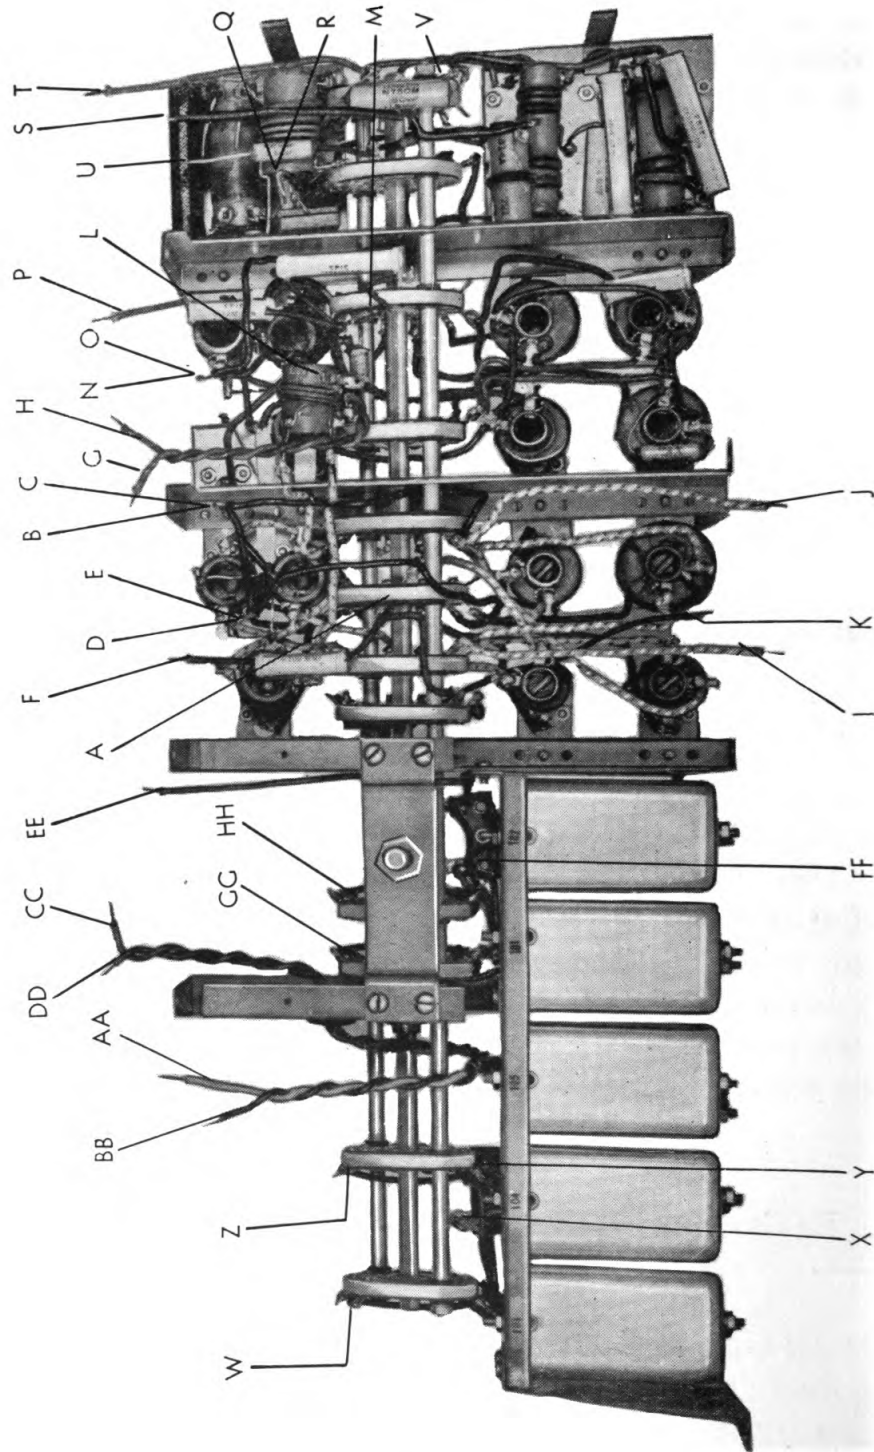
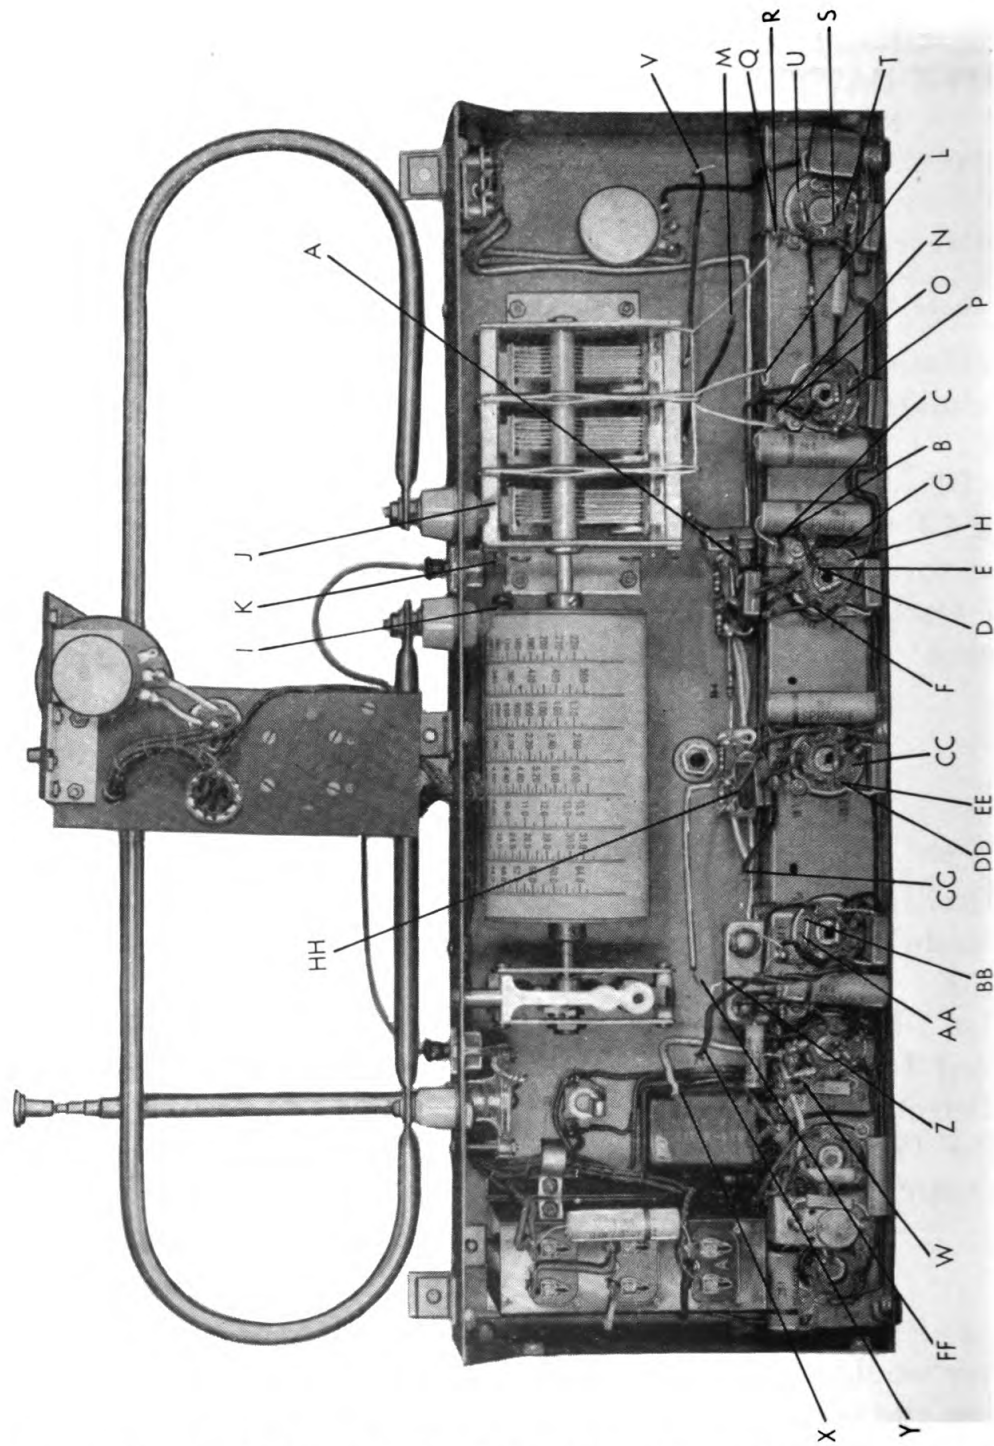

Figure 29. Radio Receiver BC-792-A, Underside View of Band Switch Assembly Showing Designations of Leads and Terminal Points
Figure 30. Radio Receiver BC-792-A, Rear View With Band Switch Assembly Removed From Chassis, Showing Designations of Leads and Terminal Points
(1) Remove all batteries.
(2) Set tuning control to low frequency end of dial (if this is not done, the tuning capacitor plates may become bent in the following work).
(3) Disconnect the control head completely by removing the connectors and plugs.
b. Figure 29 shows the switch assembly removed from the receiver. Figure 30 shows the receiver chassis after the switch assembly has been removed. Note that in each figure certain leads remain with each unit. In disconnecting the leads at their terminals, make certain that they remain with the units exactly as shown in these two figures. To identify the leads and their respective connecting terminals they have been designated with the same reference letter. Since there are 34 connections, the designations go from A to Z and from AA to HH. There is no significance attached to the use of the double letter designations beyond that necessary to distinguish them from the single letter. After all 34 junctions have been unsoldered, remove the screws fastening the switch partitions to the chassis. There's a